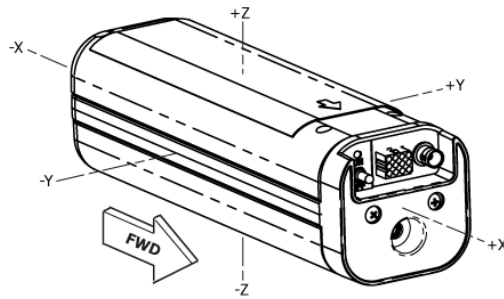

Figure 7 ELT Orthogonal Axes
NOTE: The fixed wing G-switch is triggered by approximately 2.3 Gs of deceleration (axis +X in Figure 7), whereas the five-axis G-switch is triggered by 12.5 Gs of deceleration (axes -X, -Y, +Y, -Z, and +Z in Figure 7), and requires a significant force to activate. The higher G-rating precludes inadvertent activation in helicopter applications but will allow for activation during a mishap.
- 4) Utilizing the sturdy padded surface, hold the ELT 10 inches (26.1 Centimeters) above the test area and thrust down forcefully maintaining a level axis into the pad to test the -X axis (see Figure 7).
- 5) Repeat step 2 for the -Y, +Y, -Z, and +Z axes (see Figure 7).